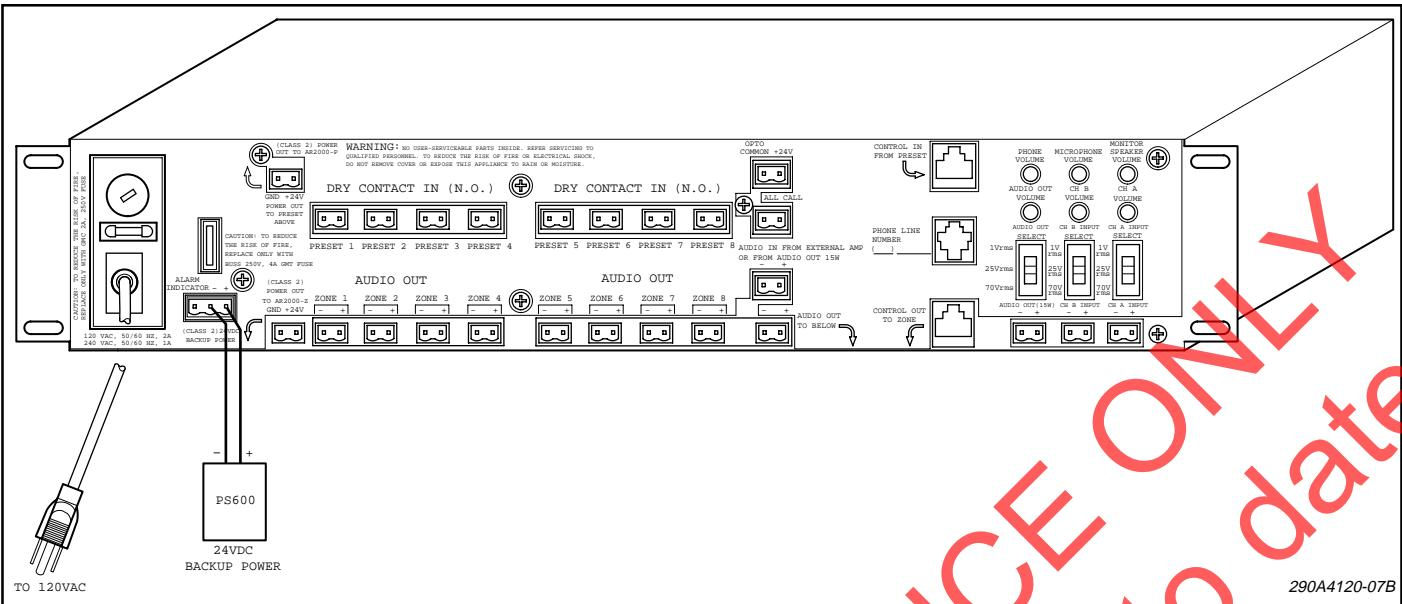

Figure 3-3.
A. Local Power (see figure 3-3).
B. Backup Power (See figure 3-3).
If it is desired to use 24 VDC either as a primary or auxiliary source of power, connect the "+" terminal of 24 volt DC power supply to the "+" terminal at the 24VDC BACKUP POWER terminal on the AR2000-M and "-" terminal of the 24 VDC power supply to the "-" terminal at the 24VDC BACKUP POWER terminal on the AR2000-M located in the back of the device. (See figure 3-3.)